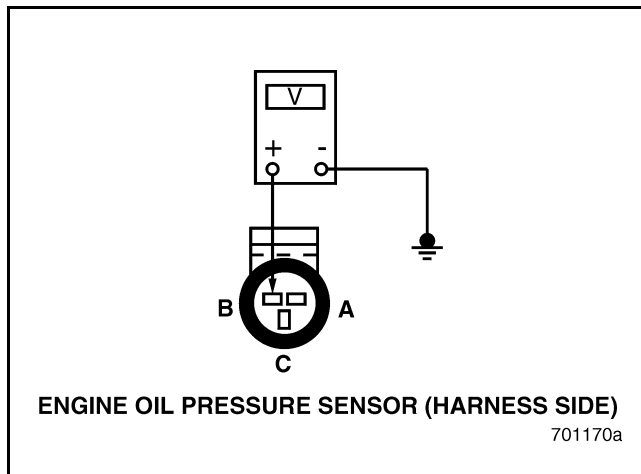

Figure 29
4. Measure voltage between Engine Oil Pressure (EOP) Sensor harness connector pin B (reference voltage line) and a good ground (see Figure 29).